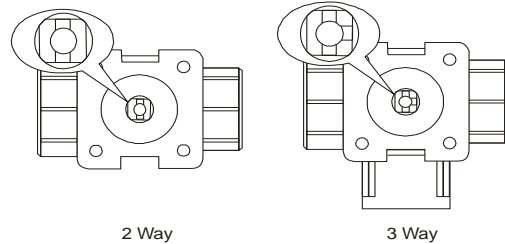

Figure 13: Positioning the Valve Stem
1. Turn the valve stem to the position outlined in Figure 13.